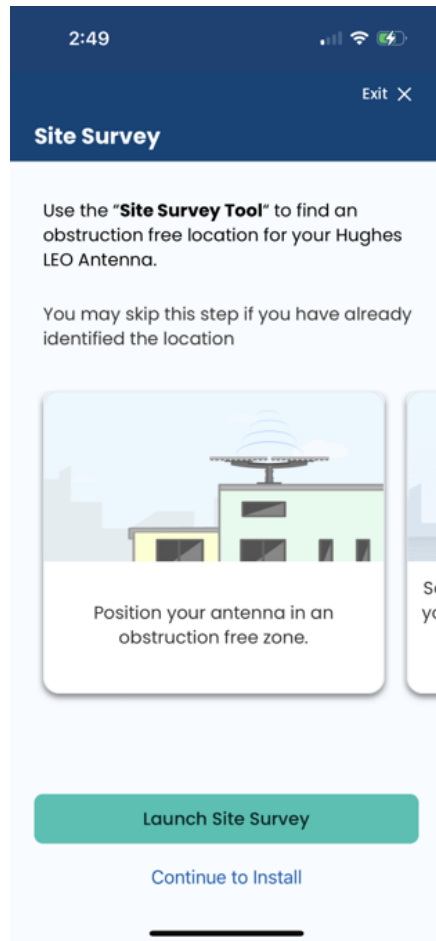

Figure 91: Skip or start site survey
1. You will see the screen (see Figure 91) to choose to do a site survey or skip if already done.